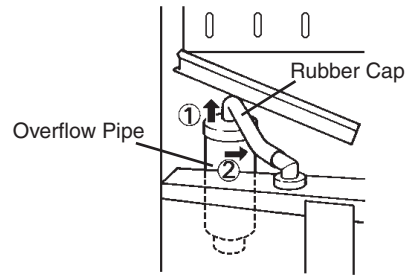

Fig. 3
- 5) Drain the water tank by removing the rubber cap covering the overflow pipe in the water tank. Remove the overflow pipe by turning it counterclockwise. See Fig. 3.